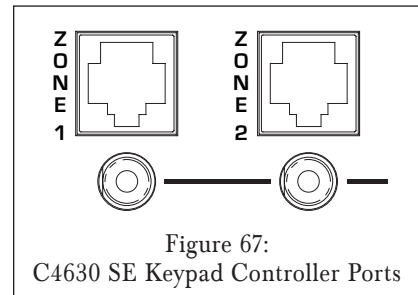

Figure 67:
3. Connect the CAT5/RJ45 cable to the zone's Keypad Controller Port on the C4630 SE (see *Figure 67*) and to the multi-pin connector on the back of the keypad. Refer to the keypad instructions for details about wiring to the keypad.